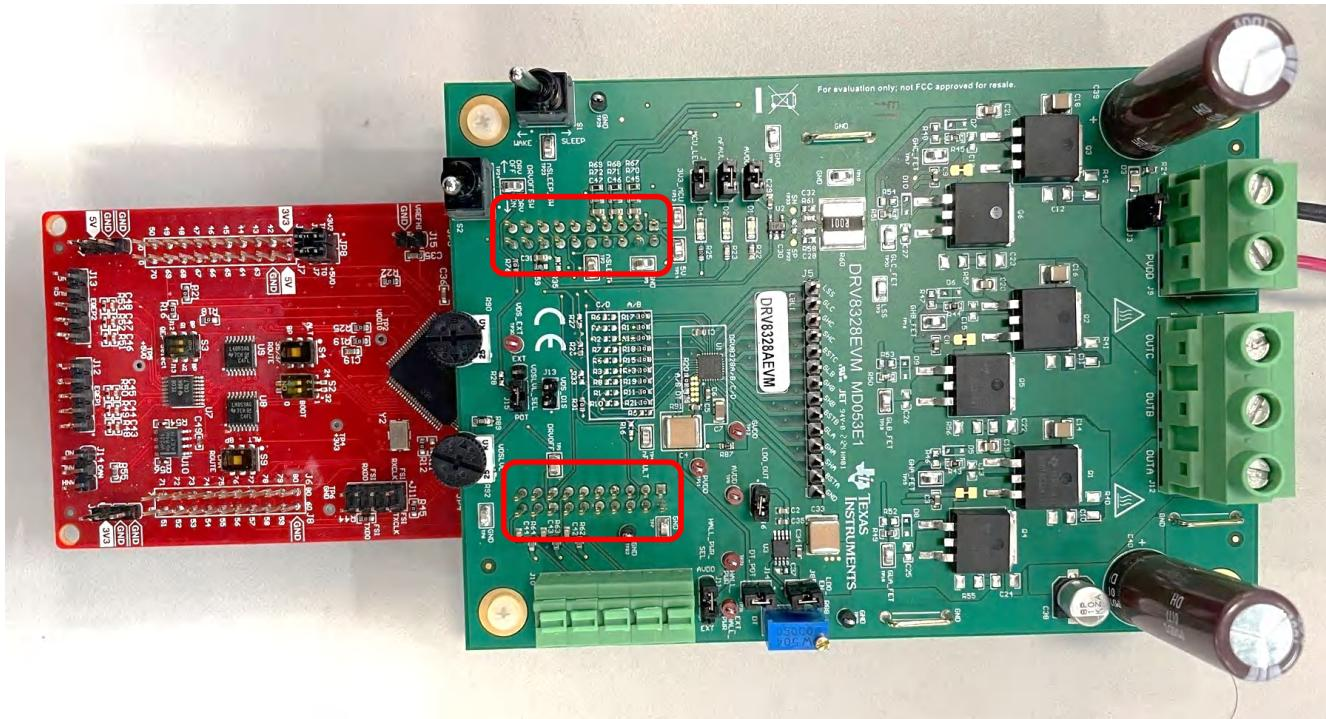
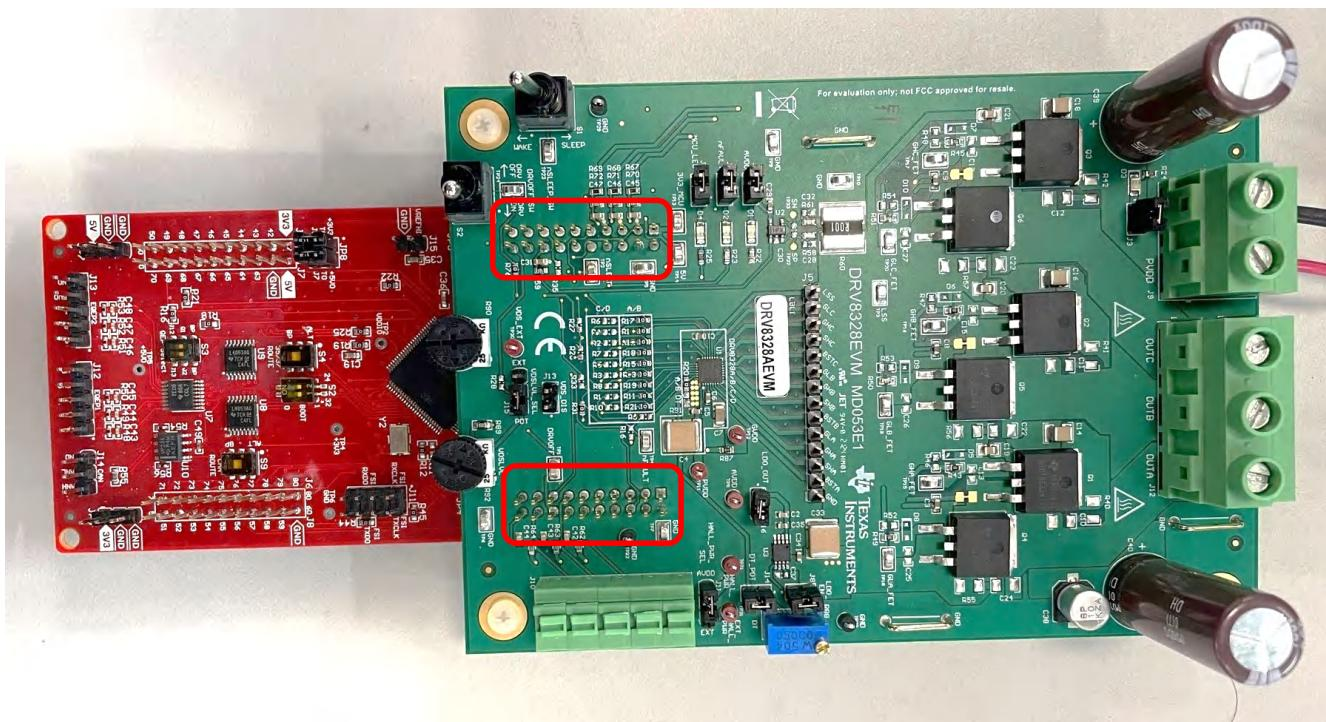

Figure 3-3. DRV8328AEVM on headers J1/J3 and J2/J4 of LaunchPad
Figure 3-4. Micro-USB plugged into LaunchPad
3. Mate the DRV8328AEVM onto the top half of the LAUNCHXL-F280049C (LaunchPad Headers J1/J3 and J2/J4) as shown in Figure 3-3. The motor and power connectors should face the same direction as the Micro-USB connector on the LaunchPad.
6. Connect a Micro-USB cable from the computer into the Micro USB connector on the top of the LAUNCHXL-F280049C as shown in Figure 3-3.
Figure 3-3 and Figure 3-4 shows where the Micro-USB cable is plugged in to the LAUNCHXL-F280049C to provide communication between the LaunchPad firmware and GUI as well as the correct installment of the DRV8328AEVM to the J1/J3 and J2/J4 headers of the LaunchPad.